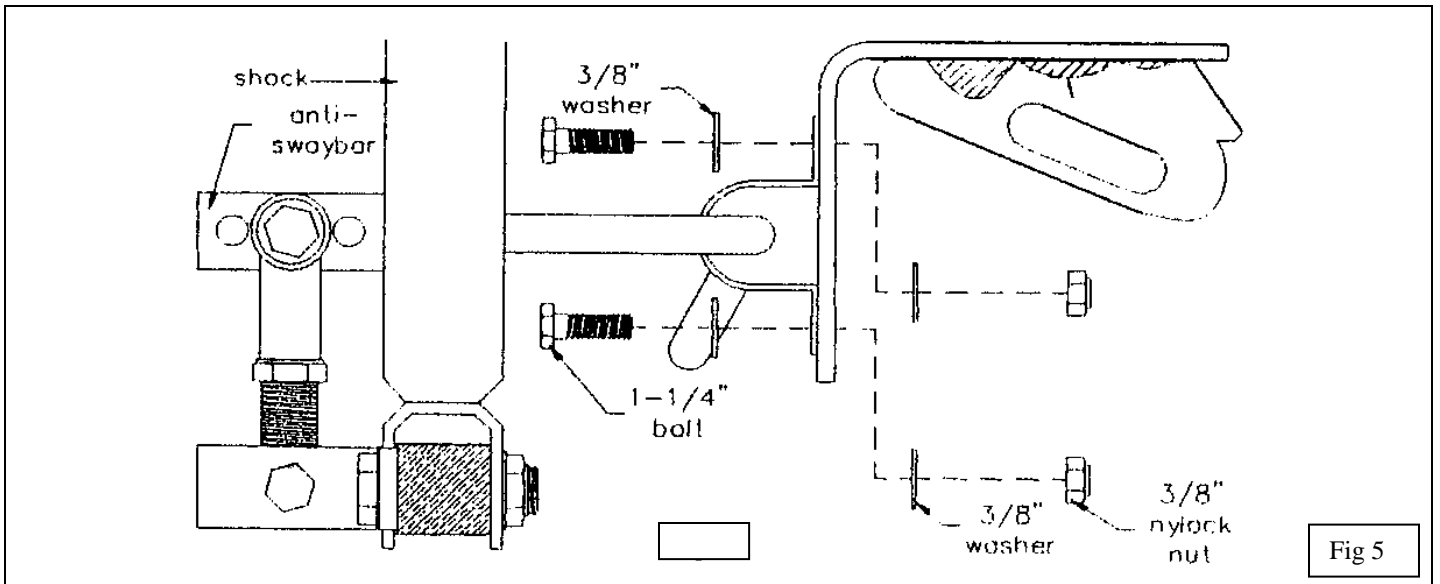

Fig 5
9. Place the pivot bushing brackets, provided in the kit, over each pivot bushing. Position the Anti-Sway Bar on the vehicle as shown in Fig. 4. Fasten the pivot-bushing bracket to the main support brackets as shown in Fig. 5. Tighten the hardware to 18ft. lbs.
11. Fasten the remaining end of the spherical bearing to the center hole in the ends of the Anti-Sway Bar using the remaining hardware as shown in Fig. 5. Tighten the nut to 18ft. lbs. of torque. Tighten the spherical bearing jamb nuts against the female spherical bearings.